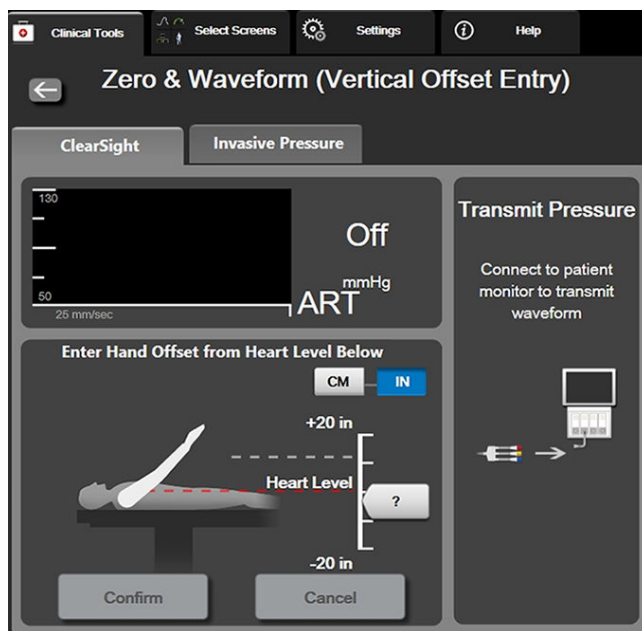

Figure 11-6: Zero & Waveform screen – Vertical Offset Entry
3. The **Zero & Waveform** screen in this mode (shown in Figure 11-6 on page 213) will depict a vertical scale bar to represent the offset of the hand relative to the heart; the heart level is set at zero. A positive offset signifies a patient position where the hand is above the heart. Select the units of the scale bar: **CM** or **IN**.